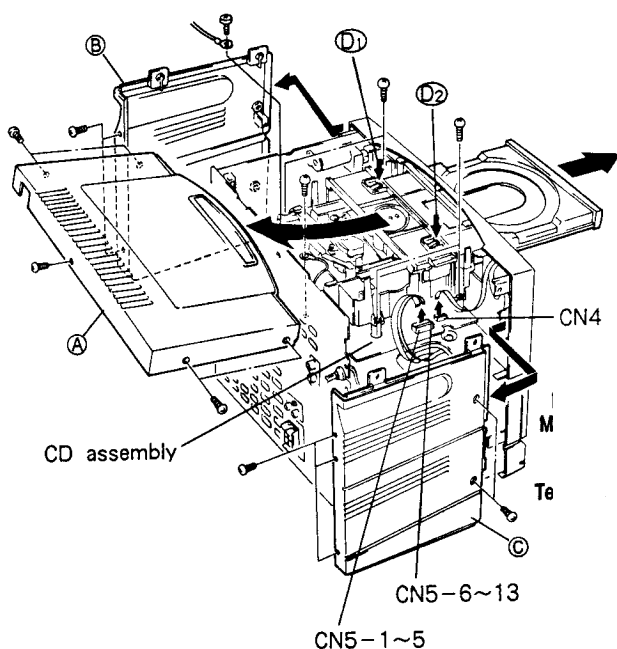
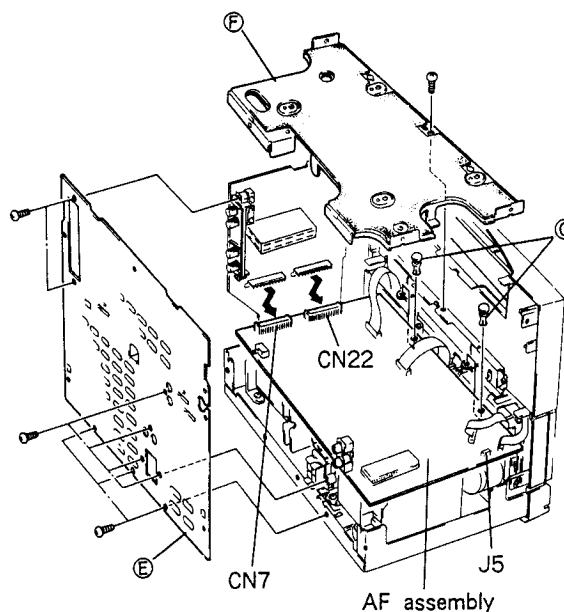
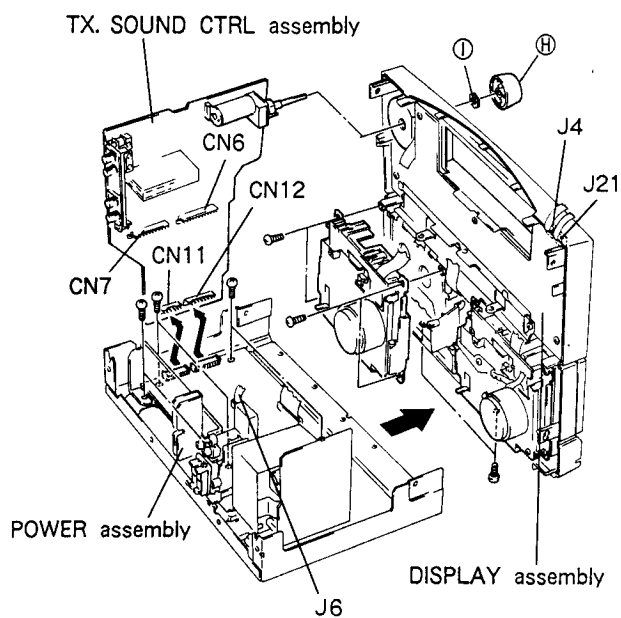

Fig. 1.
Fig. 5.
Fig. 6.
2. Remove the rear panel ⑤.
3. Remove the shield plate ⑥.
4. Remove nylon rivet ④ of the AF assembly front side (at two points). (See Fig. 5)
- Refer to Fig. 1, Fig. 5 and Fig. 6 of "DISASSEMBLY" for the locations of above CN (connector) and J (flat cable).